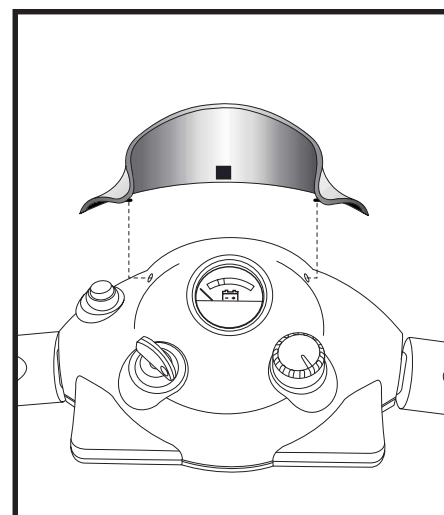

Figure 13. Tiller Console Visor
1. Gently pull the top of the visor toward the rear of the scooter to loosen it from the reusable fastener, then gently pull the sides of the visor away from the tiller console and lift. See figure 13.